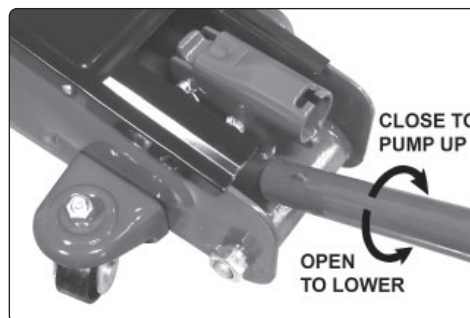

Fig.2
- 4.2. To operate the release valve engage the cross pin in the open end of the handle with the slot in the end of the release valve as shown in fig.2.
- 5.1.1. Before using jack, purge hydraulic unit in order to eliminate any air in the system. Place handle onto the release valve nut as shown in fig.2 and open the valve by turning the handle anti-clockwise, place the handle back into the jacking socket and pump for 30 to 40 seconds. When complete, close the release valve by turning the valve nut clockwise.
- 5.3.1. Close the release valve using the handle as shown in fig.2. Place the handle into the handle socket and commence pumping handle up and down using maximum strokes until the jack saddle reaches the vehicle jacking point. Check the jacking point is centrally located on the saddle and raise the vehicle.